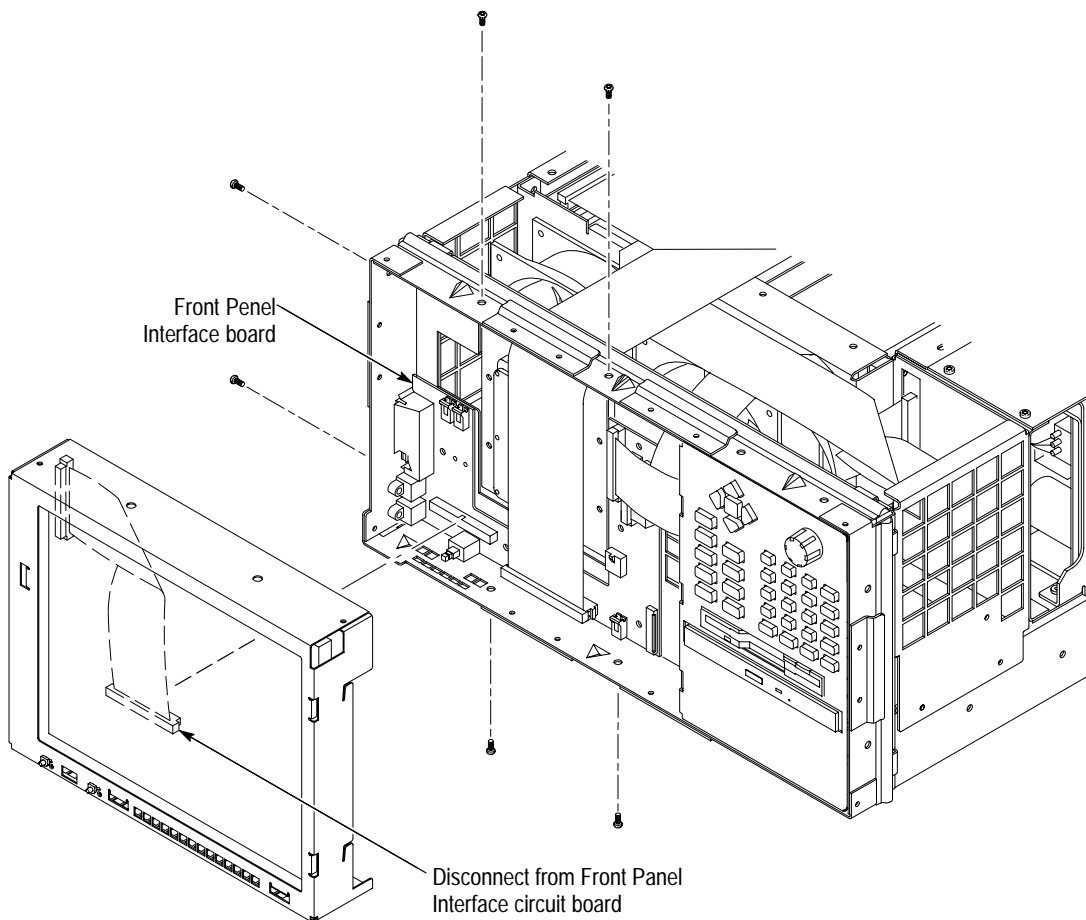

Figure 6–9: Flat panel display removal
2. Remove the six screws attaching the display assembly to the chassis. There are two screws at the top, two at the bottom, and two at the left side of the assembly (see Figure 6–9).
3. Pull the display assembly away from the chassis to expose the connector to the front panel interface circuit board (see Figure 6–9).
1. Make sure that all of the cables to the interface assembly are properly connected (see Figure 6–11).
1. Remove the six screws holding the keypad assembly to the mainframe chassis. There are two across the top, two across the bottom, and two on the right side of the assembly (see Figure 6–10).